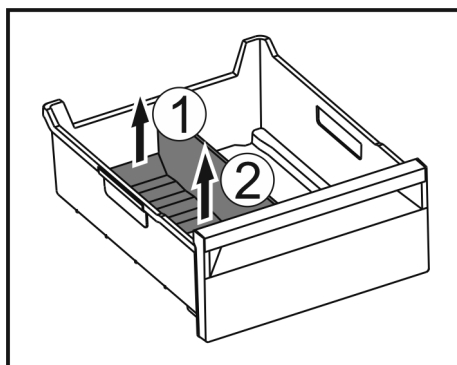

Fig. 97
- ▶ 提升冰格分隔器后部。Fig. 97 (1)
- ▶ 向上取出冰格分隔器。Fig. 97 (2)